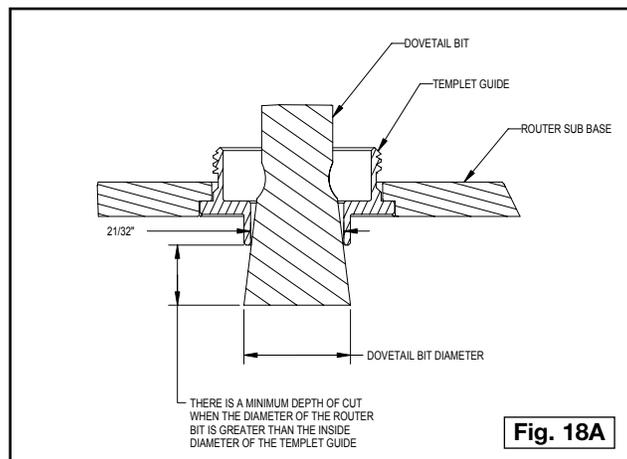

Fig. 18A
4. Purchase bits that will not cut into the template guides. The template guide used with the dovetail bit has an inside diameter of 21/32". Use bits that will fit into this dimension. Some larger bits might work, but with minimal depth (Fig. 18A).